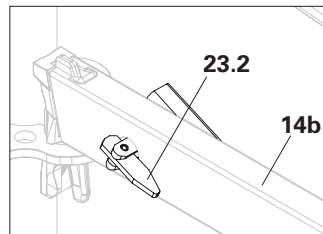

Fig. A4.08e
5. Set the tilt finger crosswise. → Ledger Brace UBL is installed. (Fig. A4.08e)
All tilt fingers (**23.2**) of the assembly must be transverse after installation of the Ledger Braces UBL and rest on both sides of the hole. (Fig. A4.08e)